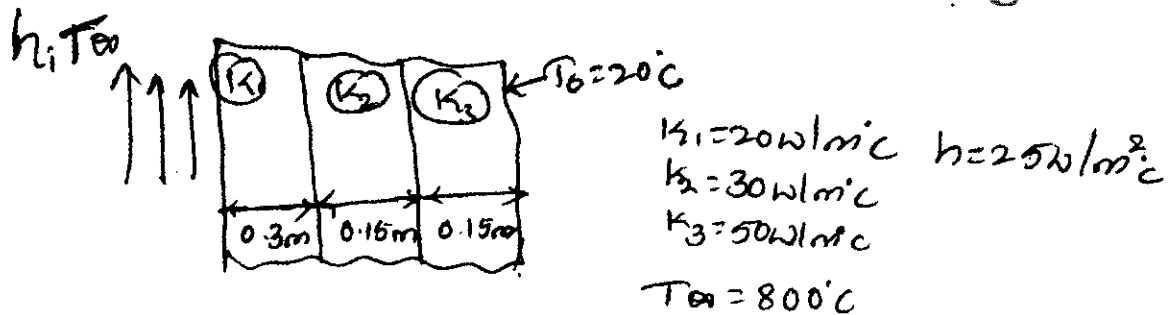

Fig. Q8(b)
b. A composite wall consists of three materials as shown in Fig. Q8(b). The outer temperature is $T_0 = 20^\circ\text{C}$, convection heat transfer takes place on the inner surface of the wall with $T_\infty = 800^\circ\text{C}$ and $h = 25 \text{ W/m}^2\text{C}$. Determine temperature distribution in the wall. (14 Marks)